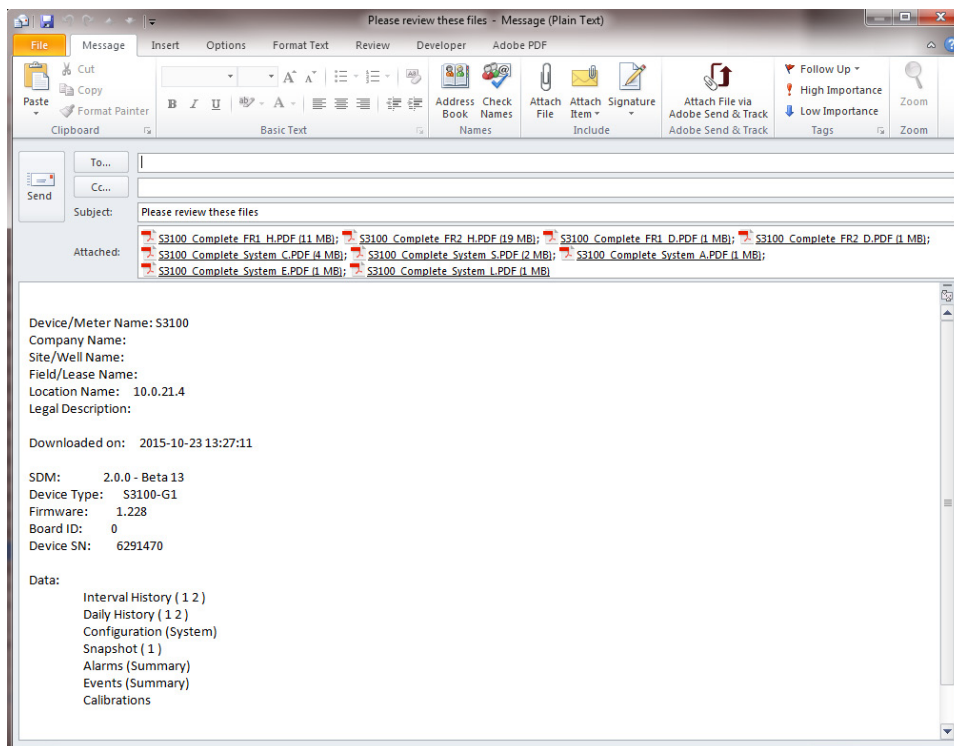

Figure 3.7—Automated email for multiple files
5. Wait momentarily while Scanner Data Manager opens an email window on your computer, attaches the export file(s), and embeds a brief description of the file(s) in the body of the email (Figure 3.7, page 35).